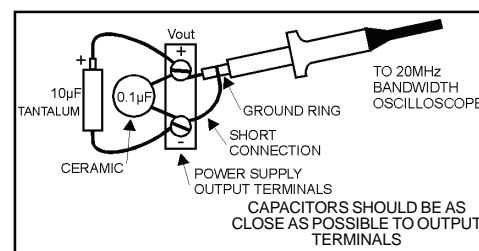

Figure 2. Measuring Output Ripple Voltage
- 5.2 Noise and ripple at the outputs should be measured as shown in Figure 2. This is done with a 20MHz bandwidth oscilloscope with a probe isolated from ground. A 10 μ F tantalum capacitor and 0.1 μ F ceramic capacitor are connected directly across the output terminals. The ground connection to the probe should be as short as possible to prevent noise pickup.